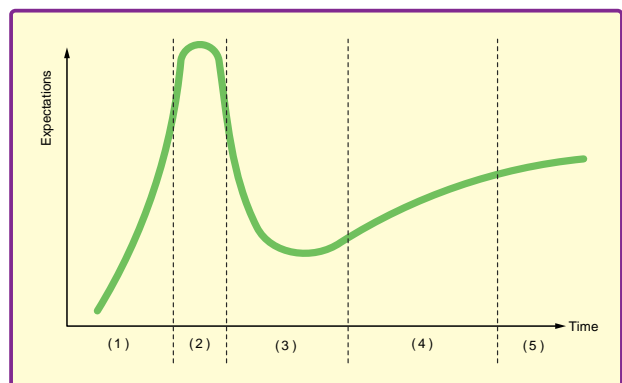

Fig.1. Gartner Hype Cycle.
'How fast?' you ask. Gartner, one of the world's leading research and advisory companies, defined something they call the 'Hype Cycle for Emerging Technologies,' which they use to evaluate the maturity of different technologies. As illustrated in Fig.1, this comprises five main periods: (1) Innovation trigger, (2) Peak of inflated expectations, (3) Trough of disillusionment, (4) Slope of enlightenment, and (5) Plateau of productivity.